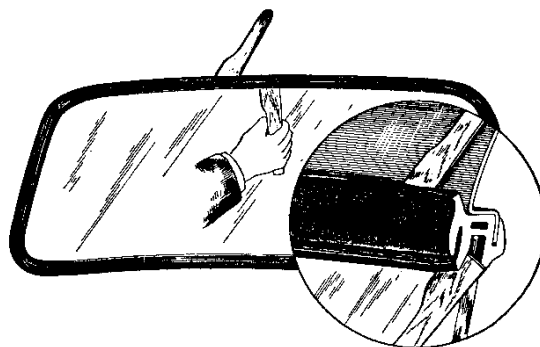

Fig. 30. Removing the rubber strip.
2. Remove the rubber strip adhesive and glass with the help of a putty knife, see Fig. 30.